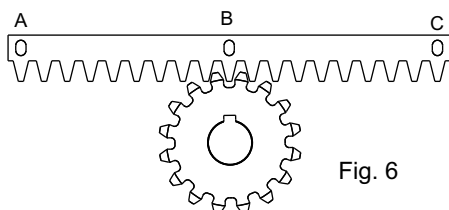
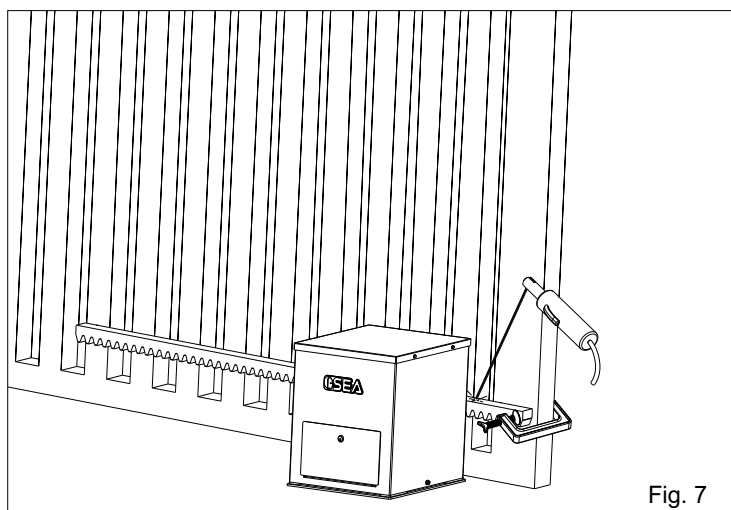

Fig. 6
Fig. 7
5.3. Lean the gear rack element on the toothed pinion of the motor so that it results parallel to the ground sideways of the gate, place it as shown in Fig. 6 and electrically weld the central pawl B to the gate structure (Fig. 7).